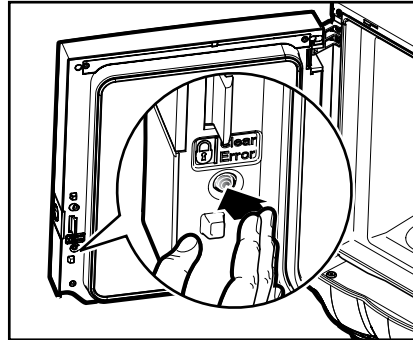

Fig. 19
2. Press the **LOCK**/Clear-Error switch to block the drink delivery (fig. 19).
3. To unlock the dispenser, press the **LOCK**/Clear-Error switch again to enable drink delivery (fig. 19).